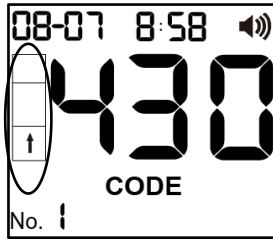

Fig. 8
- Insert the new code chip into the code chip slot of the meter. The code chip should remain in the meter during testing. Do not take it out until a new box of test strips is needed. The code number will appear on the Initial Screen after start-up. (Ref Fig. 8)